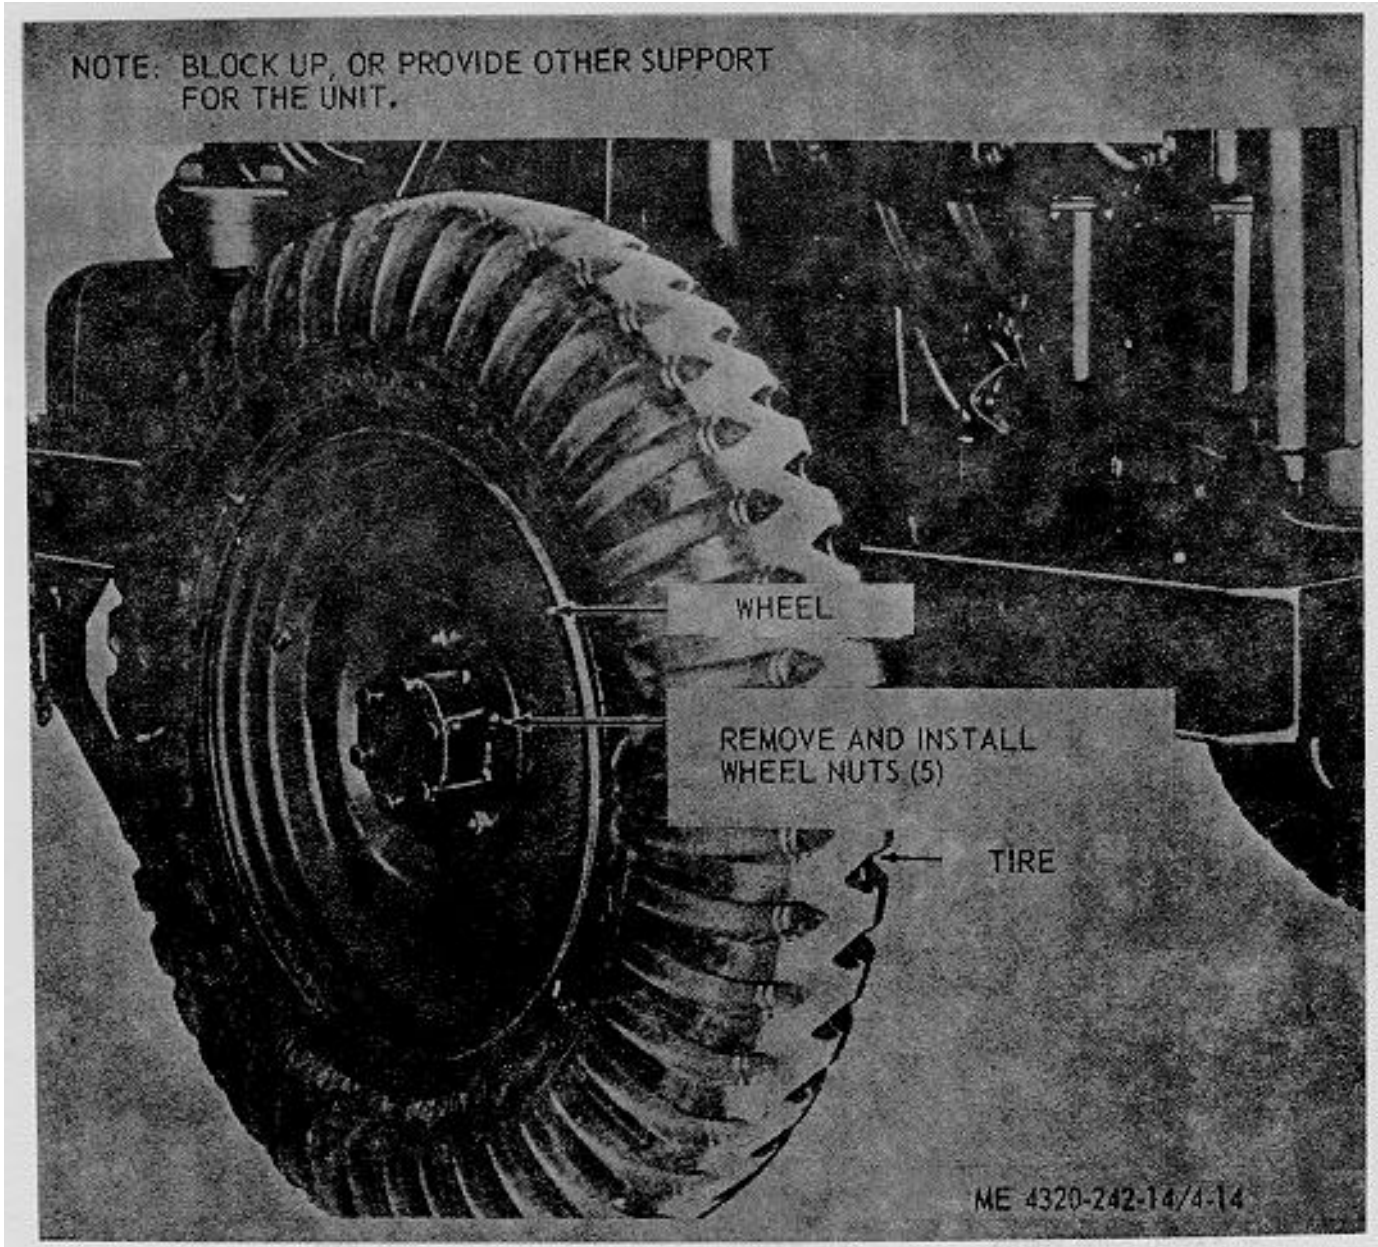

Figure 4-14. Wheel and tire assembly, removal and installation.
a. *Removal.* Refer to figure 4-14 and remove the wheel and tire assembly.
(1) Clean tires and wheels with fresh, clean water.
(2) Remove foreign material imbedded in the
(3) Inspect wheel and rim for damage. Inspect tire for cracks, deep cuts, or separated tread.
(4) Repair or replace a defective part.
c. *Installation.* Refer to figure 4-14 and install the wheel and tire assembly.
(1) Remove the wheel and tire assemblies (fig. 4-14) and hub assemblies (fig. 4-15).
(2) Install the hub and drum assemblies (fig. 4-15) and install the wheel and tire assembly (fig. 4-14).